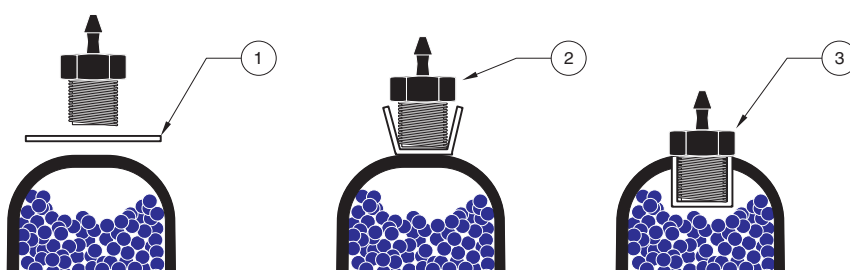

Figure 24 Replacing the Hydrophobic Filter
4. Place a new filter over the hole. Make sure that the smooth side of the filter faces the inside of the canister (Figure 24).